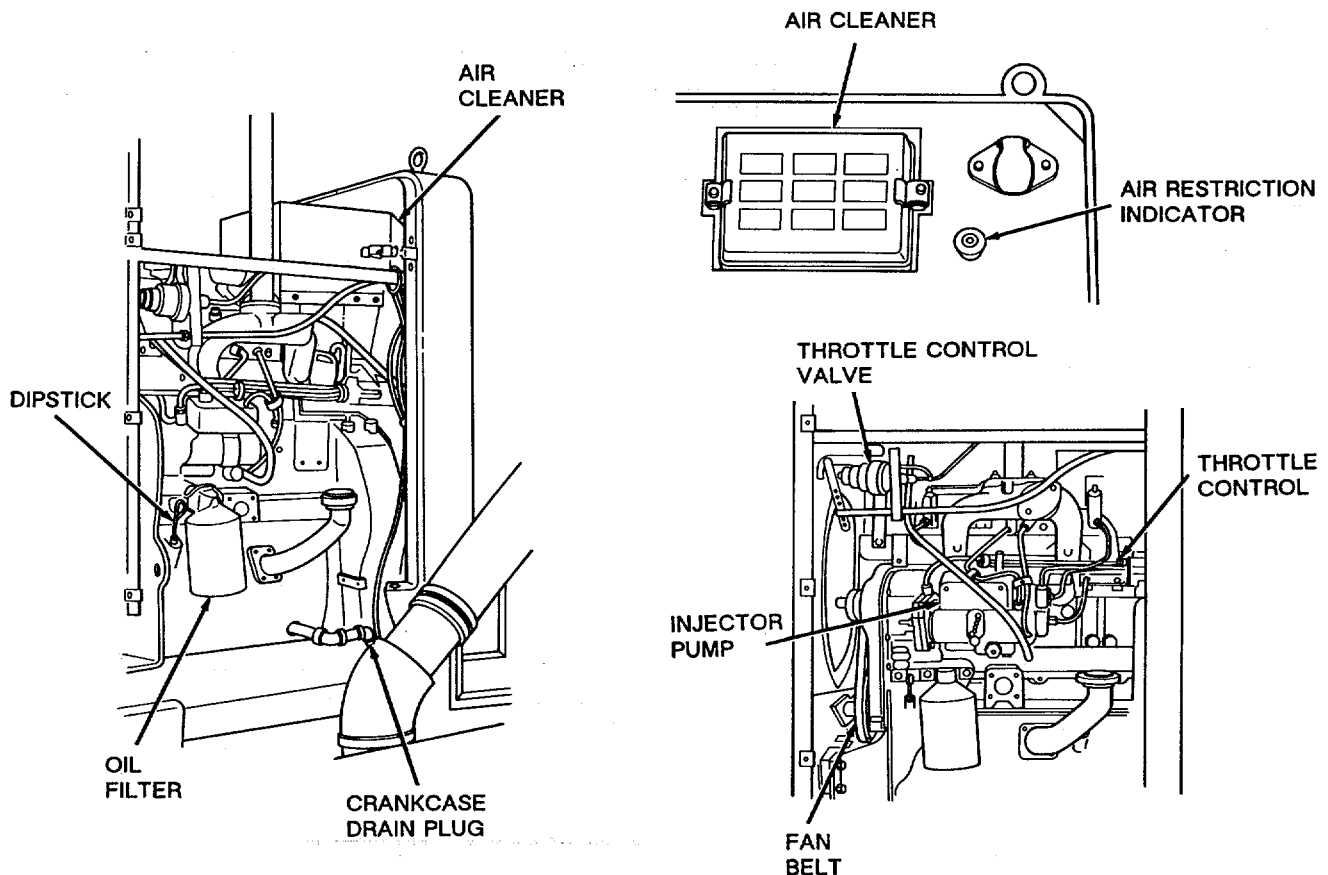

Figure 4-1. Water Distributor Engine.
- e. Remove engine cowling (5, Appendix F, Figure 47) and side panel (16), and check the injector pump, fuel filters, alternator and belt, oil filter, and throttle control valve for damage (see Figure 4-1).
- d. *Check Crankcase Oil Level (See Figure 4-1).*
(1) Remove the dipstick and check the crankcase oil level.
(2) The oil level must be kept between the FULL and ADD marks on the dipstick. If the level is below the ADD mark, add oil as necessary (see Chapter 3, Section I).
- (1) Remove drain plug from oil pan and drain oil.
- (2) Replace oil filter element (see paragraph 4-41).
- (3) Install crankcase drain plug and add oil to crankcase (see Figure 4-1).